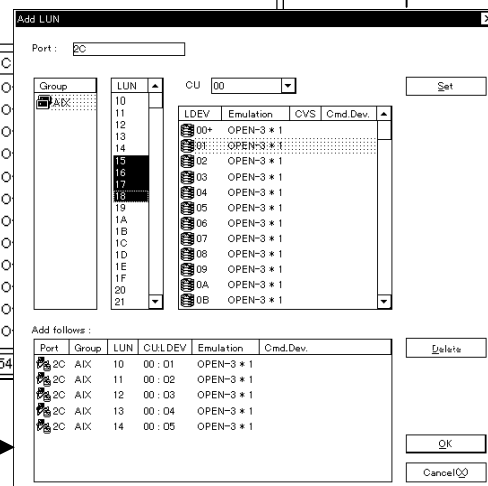

Figure 5.1.2 Add LUN Window
- ③ Since the Add LUN window (Figure 5.1.2) is displayed, after select LUN and CU:LDEV, select (CL) the [Set] button, make the “Add follows” list and select (CL) the [OK] button.